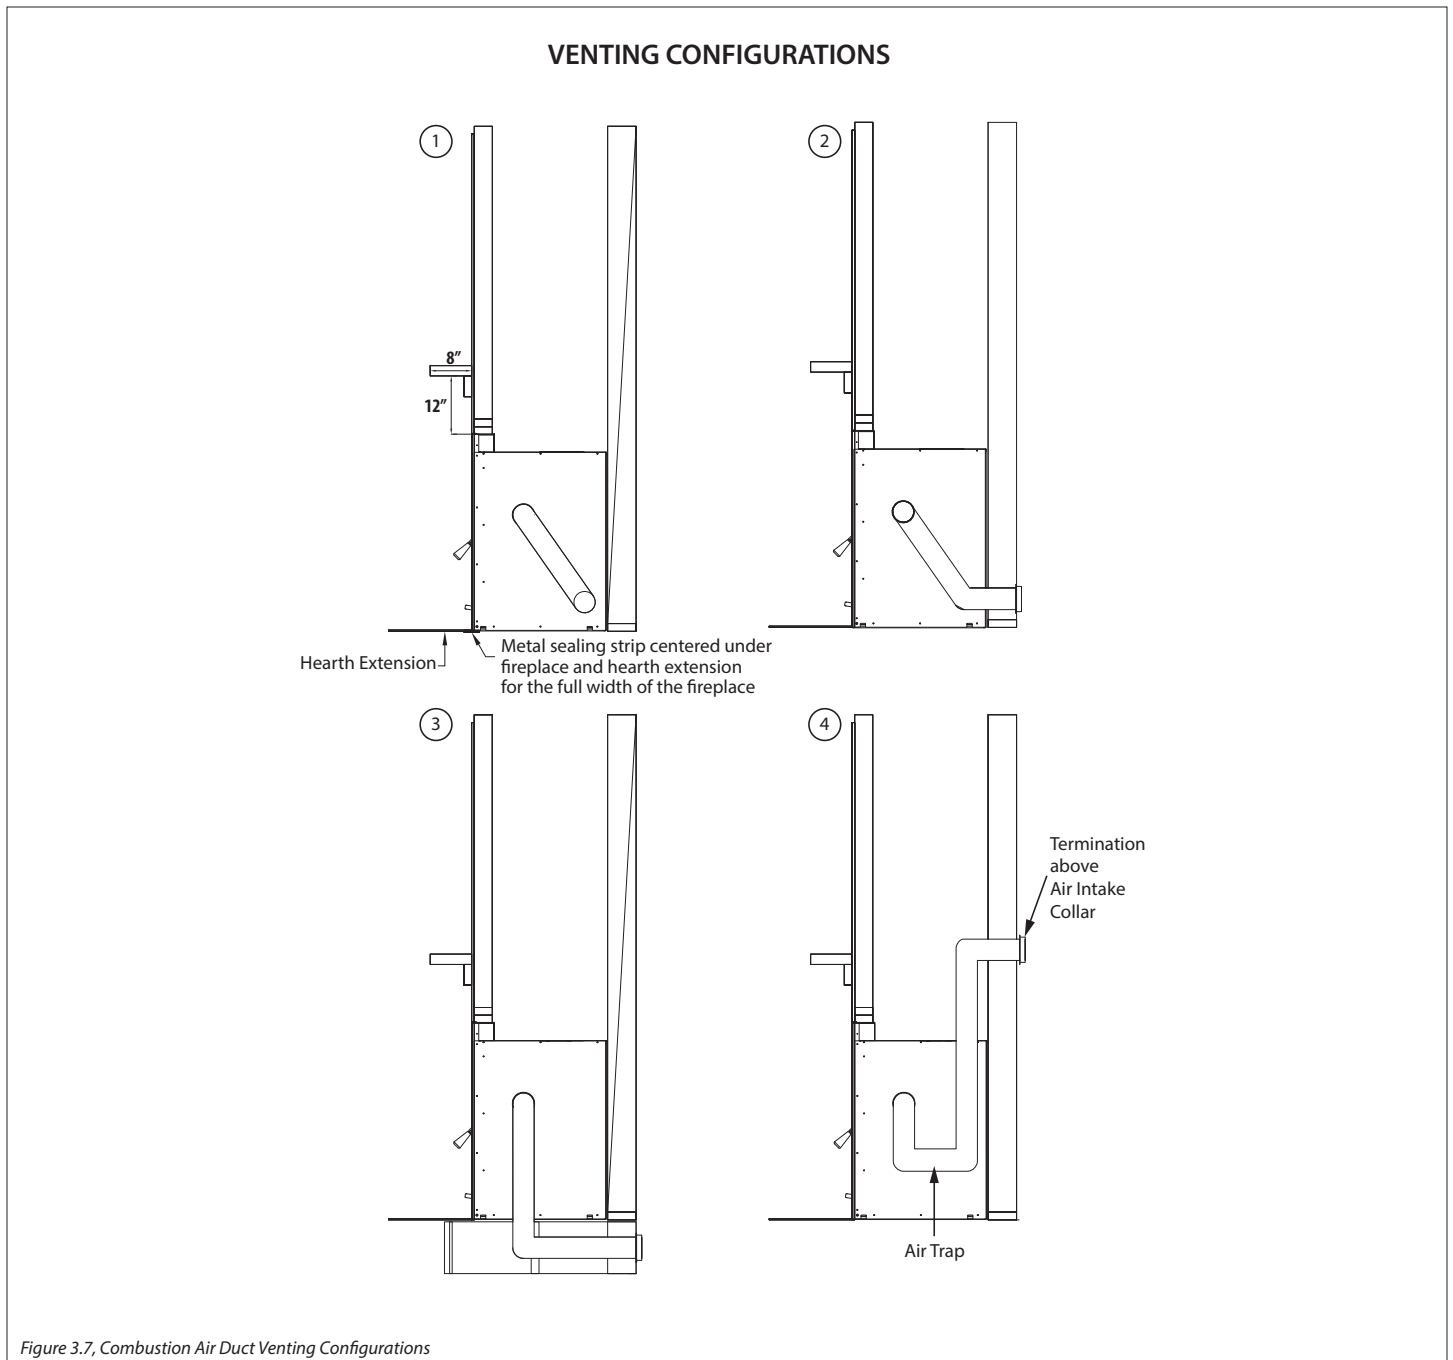

Figure 3.7, Combustion Air Duct Venting Configurations
NOTE: If the air intake duct pipe will terminate at the same height or above the air combustion collar on the fireplace, an air trap is recommended. See venting configurations in section Figure 3.7, Combustion Air Duct Venting Configurations on page 16.
- An optional air trap can be used in venting configurations 1 through 3" Figure 3.7 below.